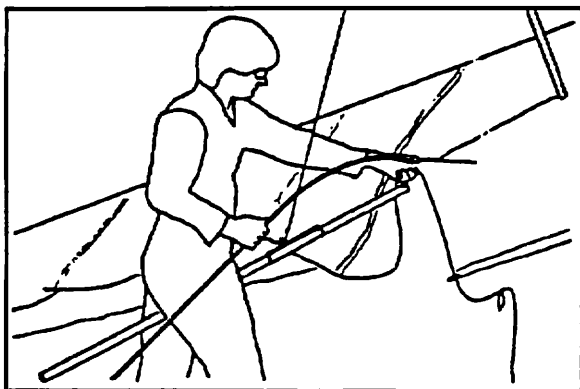

Figure 14
8) Install the cambered top surface battens in the sail, leaving out the shortest three on each side for the present time. Each batten is secured by a double loop of the batten string. (Figure 14, 15) Note: Insert the cambered battens carefully, so as to prolong the life of your batten pockets. Never insert or remove battens with the crossbar tensioned, or with a heavy wind load on the sail, or in any condition that causes the battens to slide with great resistance in the pockets. Take care when inserting the cambered battens that the batten tip does not cause the rear edge of the leading edge mylar insert to fold under. If this happens it will cause a disruption in the airflow which can severely alter the flight characteristics of the glider.